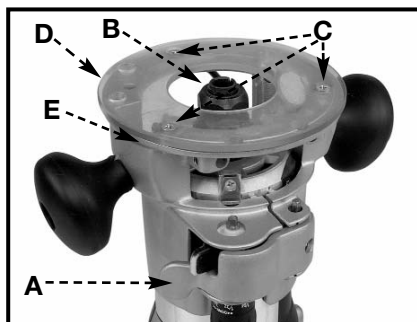

Fig. 7
Applications using a templet guide require the bit to be centered in the guide. This, in turn, requires the center hole in the sub-base to be in line with the collet of the motor unit. Your model has an adjustable sub-base which has been aligned at the factory. The fixed-base router comes with the large hole (Fig. 7). To use templet guides, use an accessory base, and/or, if the sub-base has been removed and readjustment is required, use the following procedure.
1. Loosen the sub-base mounting screws (C) Fig. 7 just enough to allow the sub-base (D) to move.
2. Open the clamp (A) Fig. 7, and adjust the power unit so that the collet nut (B) engages the center hole in the sub-base (D). Allow the sub-base to center itself on the collet nut. Close the clamp (A).
3. Tighten the sub-base mounting screws (C) Fig. 7 securely.